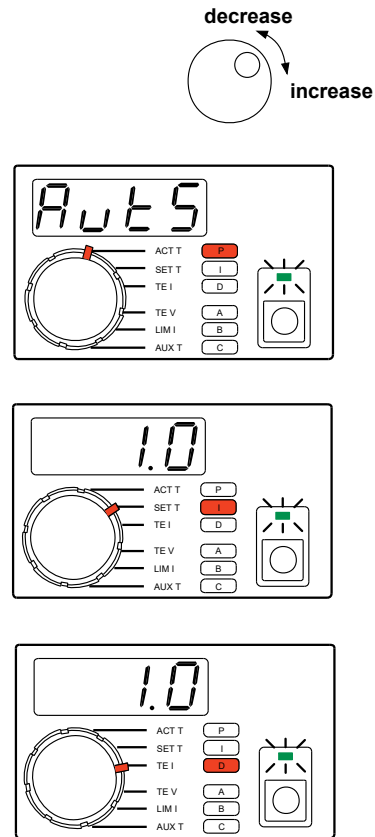

Figure 15. Setpoint Response Tuning
A. Setpoint Response Tuning (Figure 15)